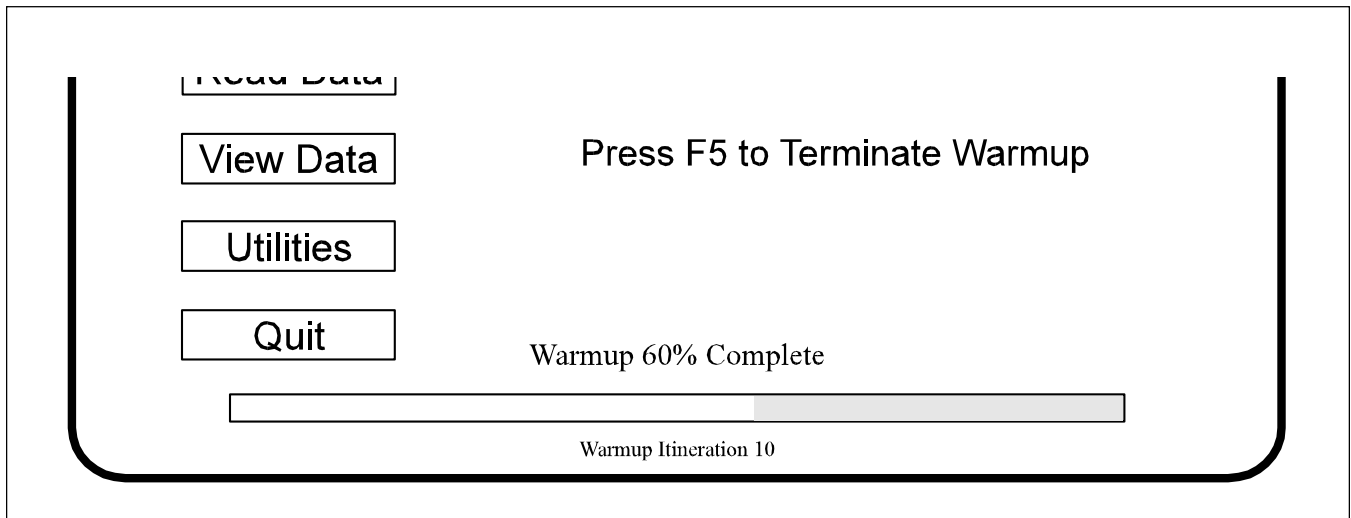

Figure 15 - Warm-up Status Bar
1. The Warm-Up Check monitors the U.V. lamp at the start of the Computer Lane Monitor program to make sure it has stabilized enough to allow accurate calibration and reading of sample tapes. The Warm-Up Check is automatically started each time the Main Menu is displayed until the Warm-Up Check is completed. A bar graph on this display indicates the warm-up status of the U.V. lamp to avoid excess waiting. See Figure 15. The warm-up time varies depending on the ambient temperature, storage temperature, and age of the U.V. source tube. A normal warm-up takes 15 to 45 minutes from the time the UV lamp was started.